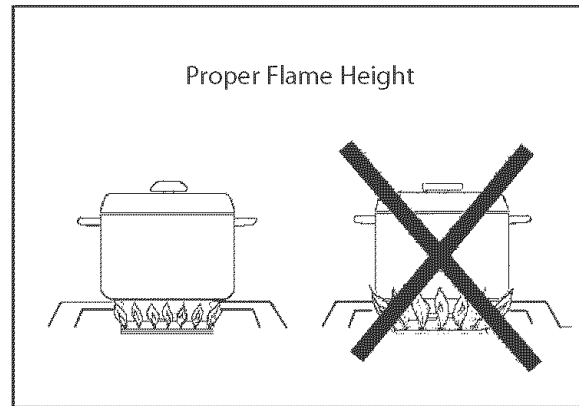

Fig. 3
- For safety reasons the flame must never extend beyond the bottom of the cooking utensil. Never allow flames to curl up the side of the pan (see Fig. 3).